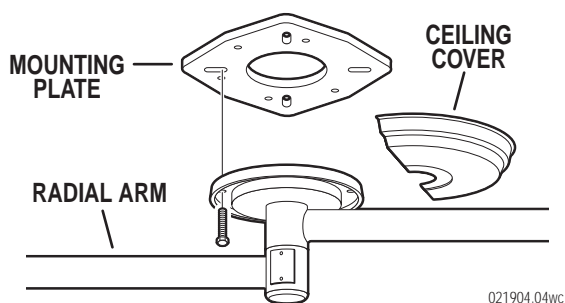

Figure 2. Radial Arm Installation
- c. Install the ceiling cover and secure. See figure 2.